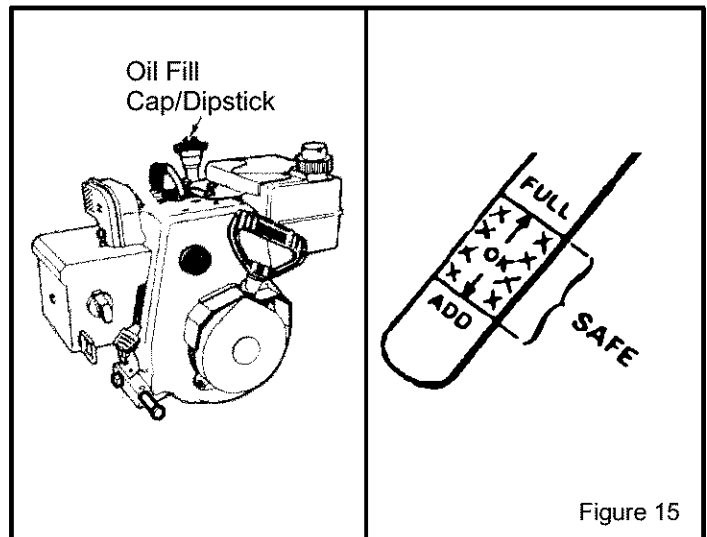

Figure 15
3. If necessary, add oil until the oil reaches the FULL mark on the oil fill/cap dipstick (see Figure 15). Do not add too much oil.